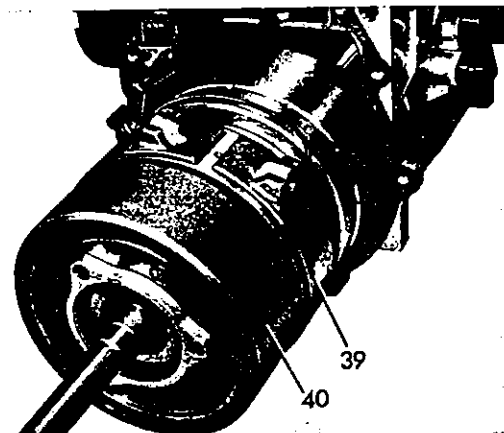

Fig. 18
23 Secure brake band B 1 (39) on the drum with a snap ring for brake band piston cover B 2 and remove gear set (40) from transmission case. Brake band B 2 remains in the transmission case Fig. 18